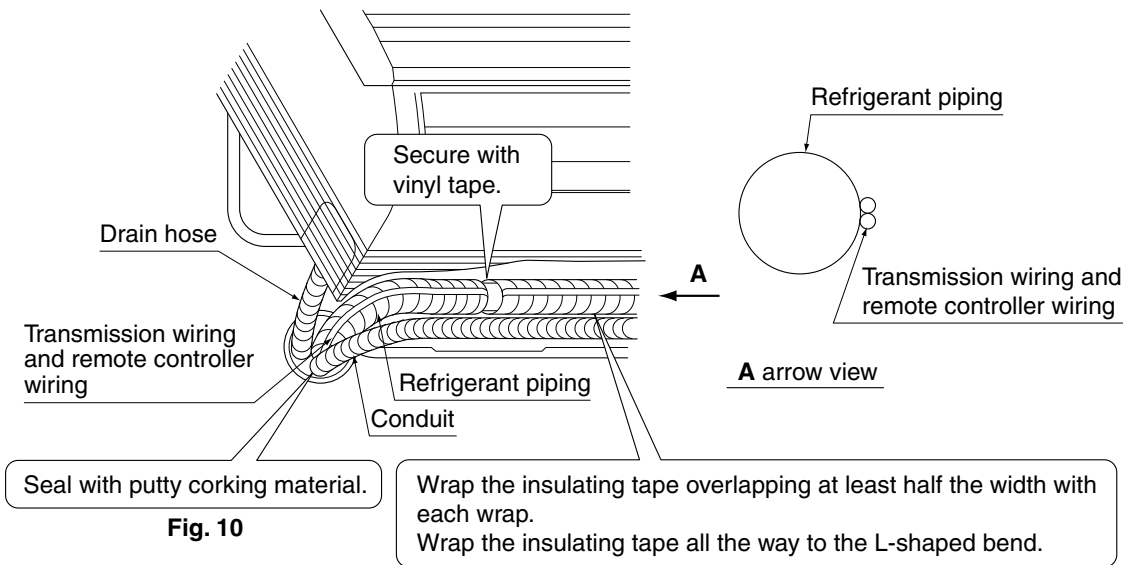

Fig. 10
(7) Pass power supply wiring and ground wiring threaded through conduit (For connecting the conduit to the unit, see “8-1 HOW TO CONNECT WIRINGS”), and remote controller wiring through the wiring guide in through the back of the indoor unit and to the front.
(8) Connect the piping. (See “5. REFRIGERANT PIPING WORK” and Fig. 10)